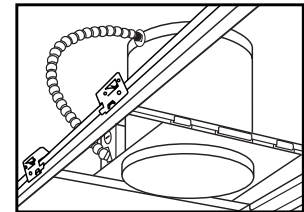
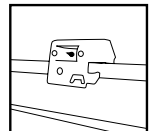

Figure 6
Figure 7
Step 3. Place fixture into position and snap bar hanger foot with integral T-bar clips onto T-bars (Fig. 6). Additional holes provided for securing with wire or screws as needed (Fig. 7).